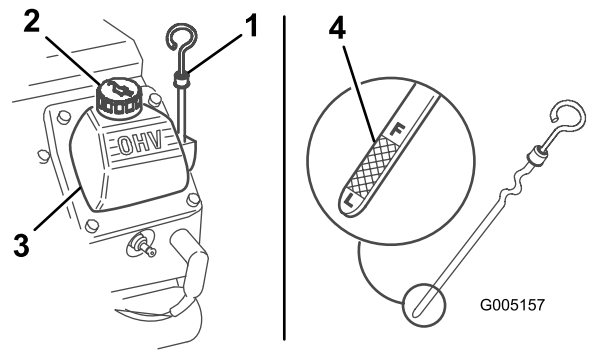

Figure 25
3. Clean the area around the oil dipstick (Figure 25).
4. Pull out the dipstick and wipe the metal end clean (Figure 25).
5. Slide the dipstick fully into the dipstick tube (Figure 25).
7. If the oil level is low, clean the area around the oil-fill cap and remove the cap (Figure 25).
12. Remove the fill cap (Figure 25) and slowly pour approximately 80% of the specified amount of oil in through the valve cover.